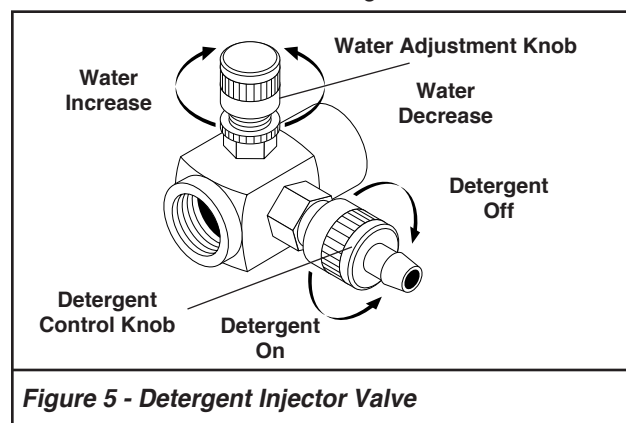

Figure 5 - Detergent Injector Valve
3. Start the detergent suction by rotating the water adjustment knob of the detergent injector valve. See **Figure 5**. Turning the knob counterclockwise will pull detergent into the system. The flow may be observed